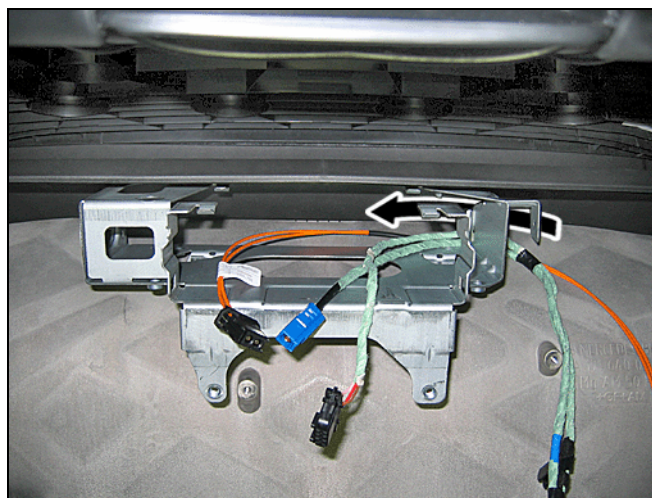

Figure 8
2. Route the MOST connector, antenna connector, and power supply connector behind, through the center, and out the front of the mounted bracket for the CAR NAVIGATION processor (Figure 8).